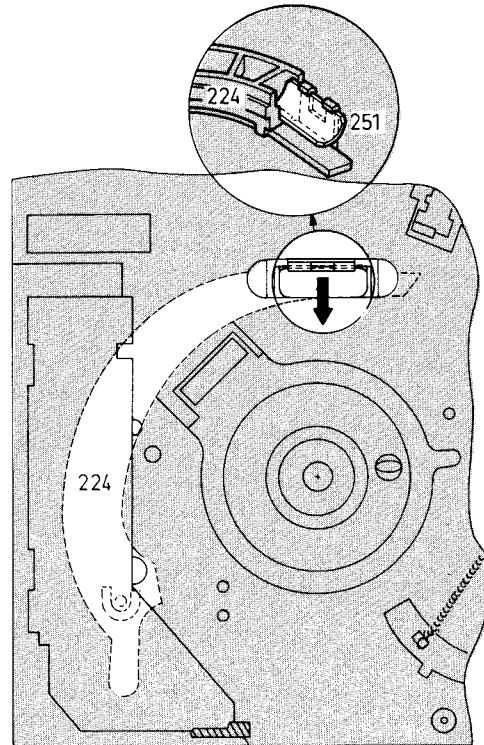

Fig. 1-20
- Turn the threading-in ring so far that the end of the threading-in arm is in parallel to the top plate (position C) (Fig. 1-20).
- Demount the ring spring, Pos. 251 with pliers through the hole in the lower side of the chassis (Fig. 1.20).
- Thread in so long that the threading-in arm is free to be removed. Remove the threading-in arm, pos. 224 from the threading-in ring (attend to the scanner), (Fig. 1-20).